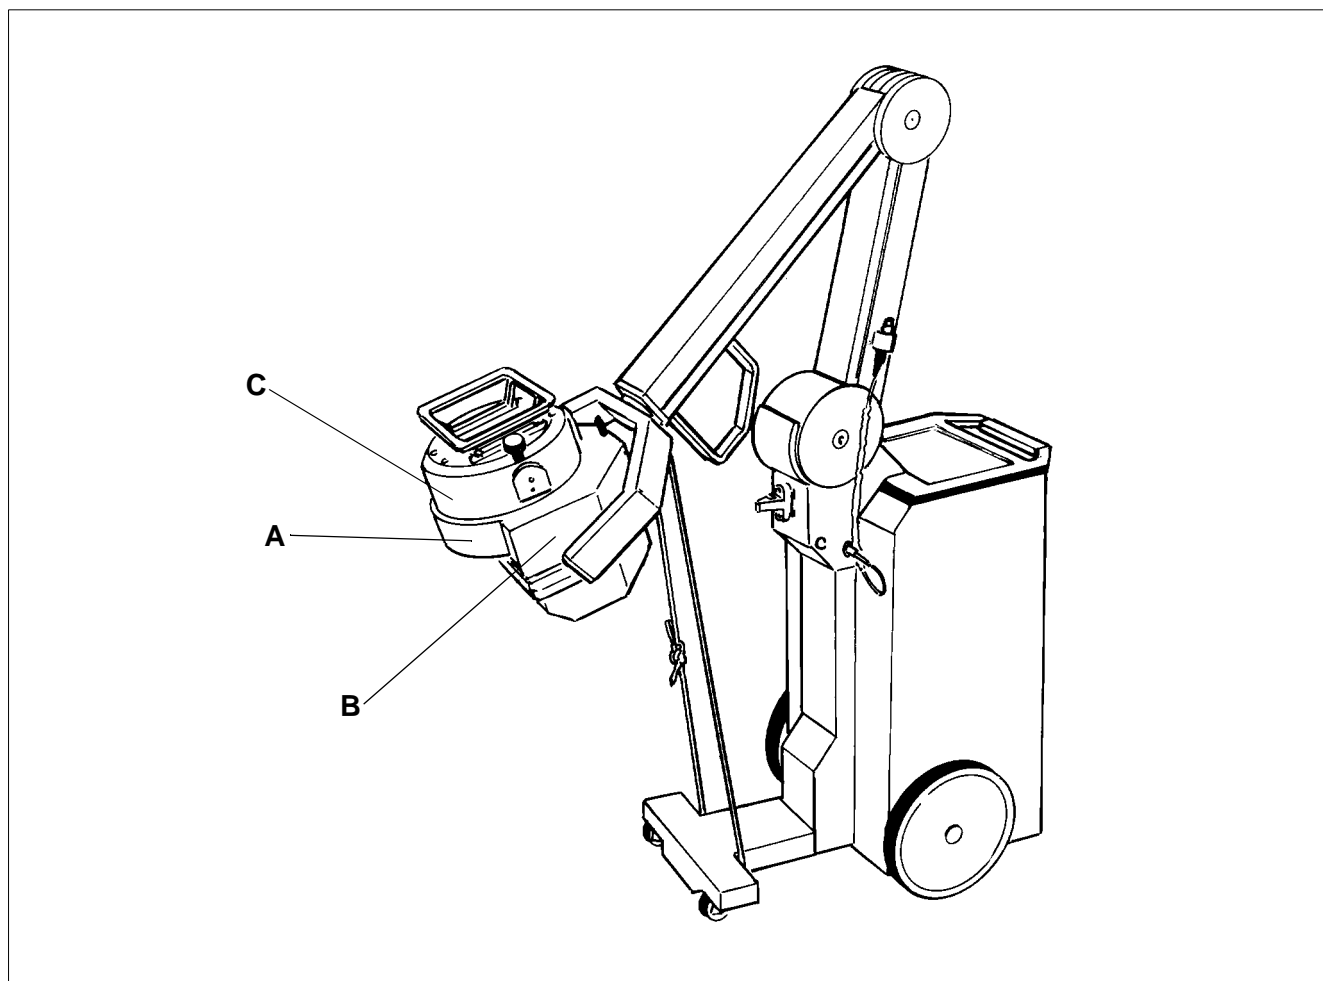

Fig. 7
- Turn the single tank so that the collimator is facing upwards (Fig. 7).
- Secure the arm and the single tank with a rope (Fig. 7).